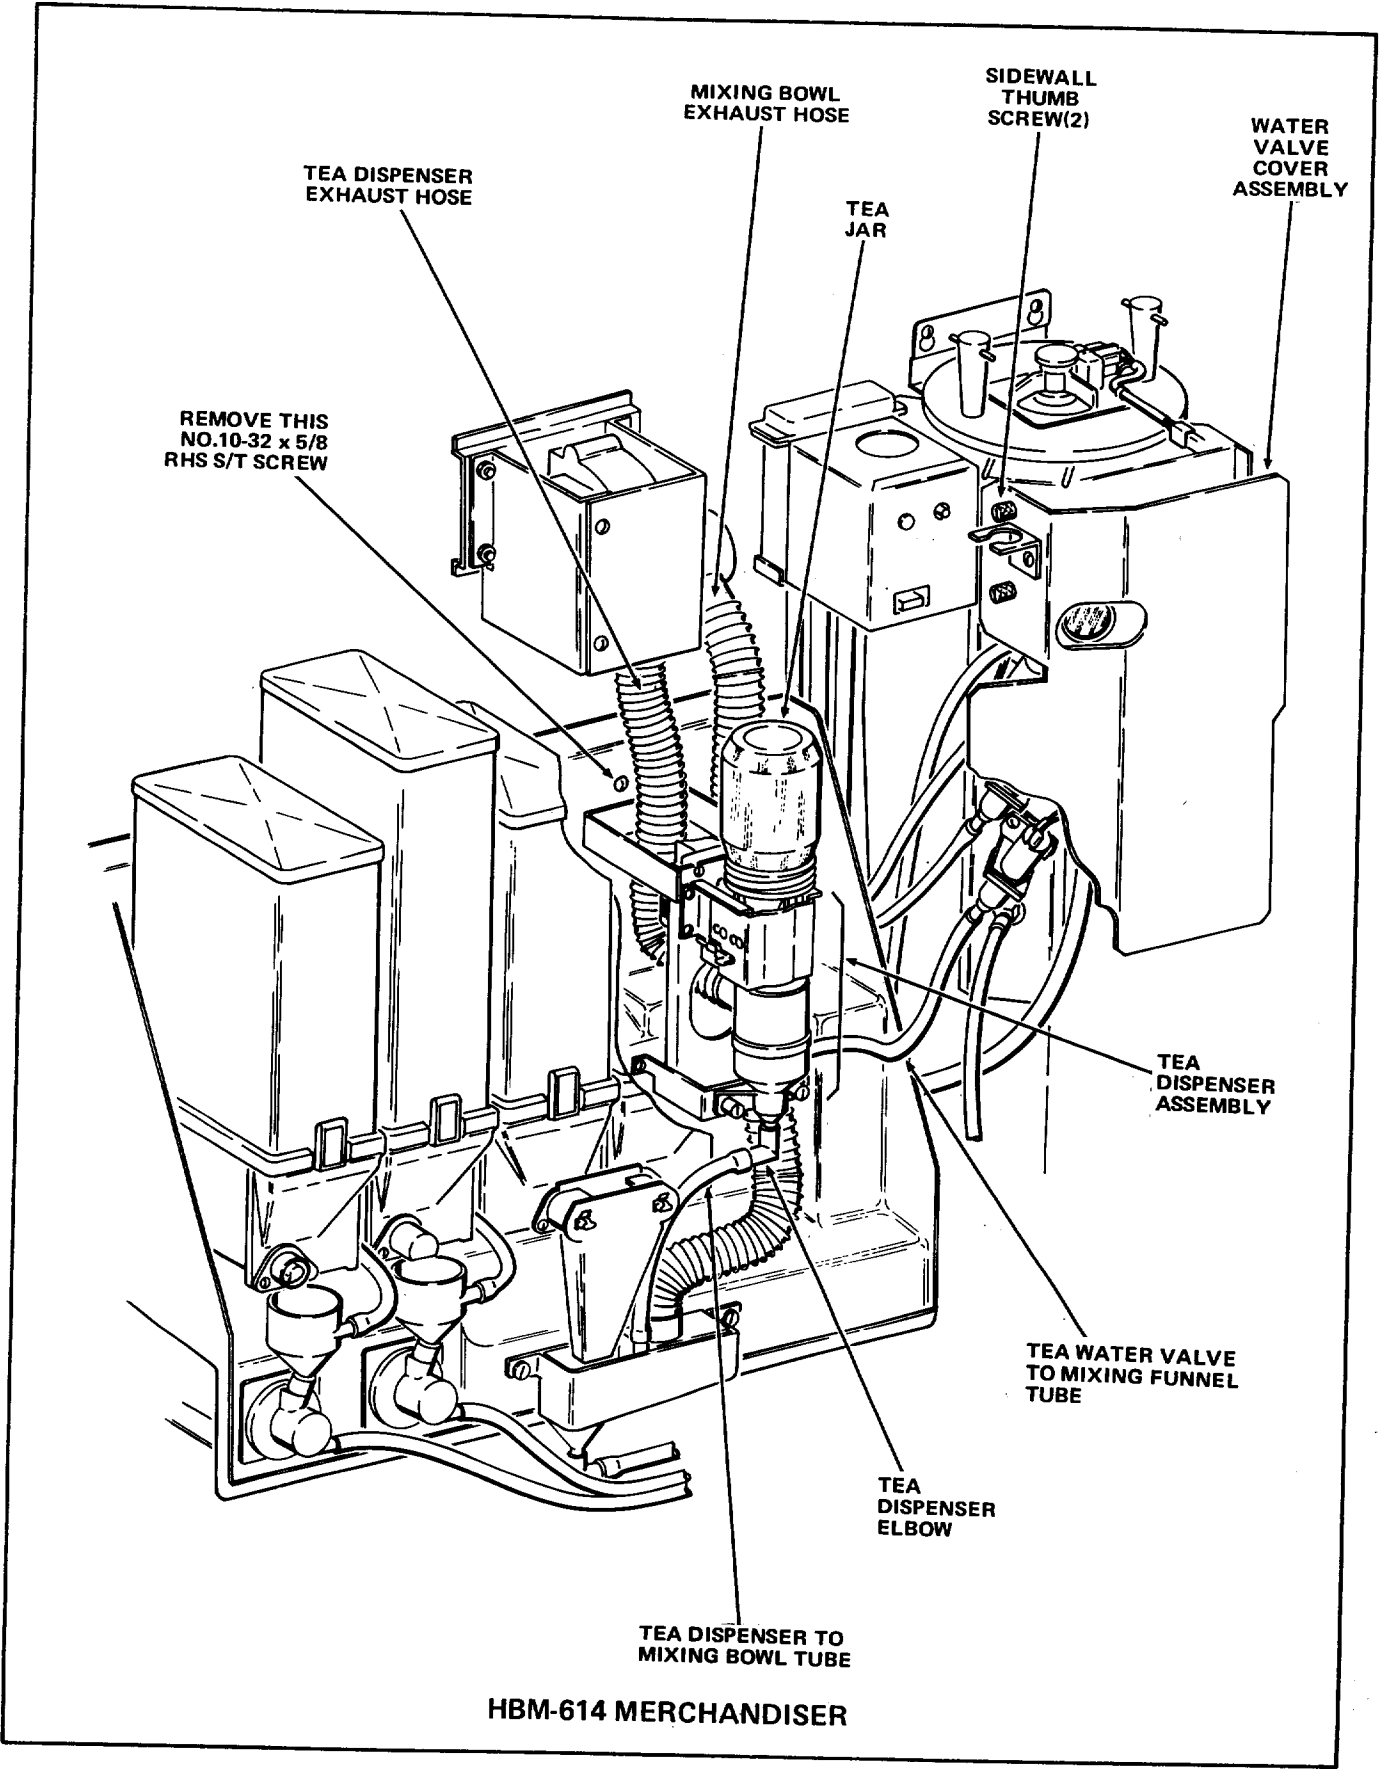
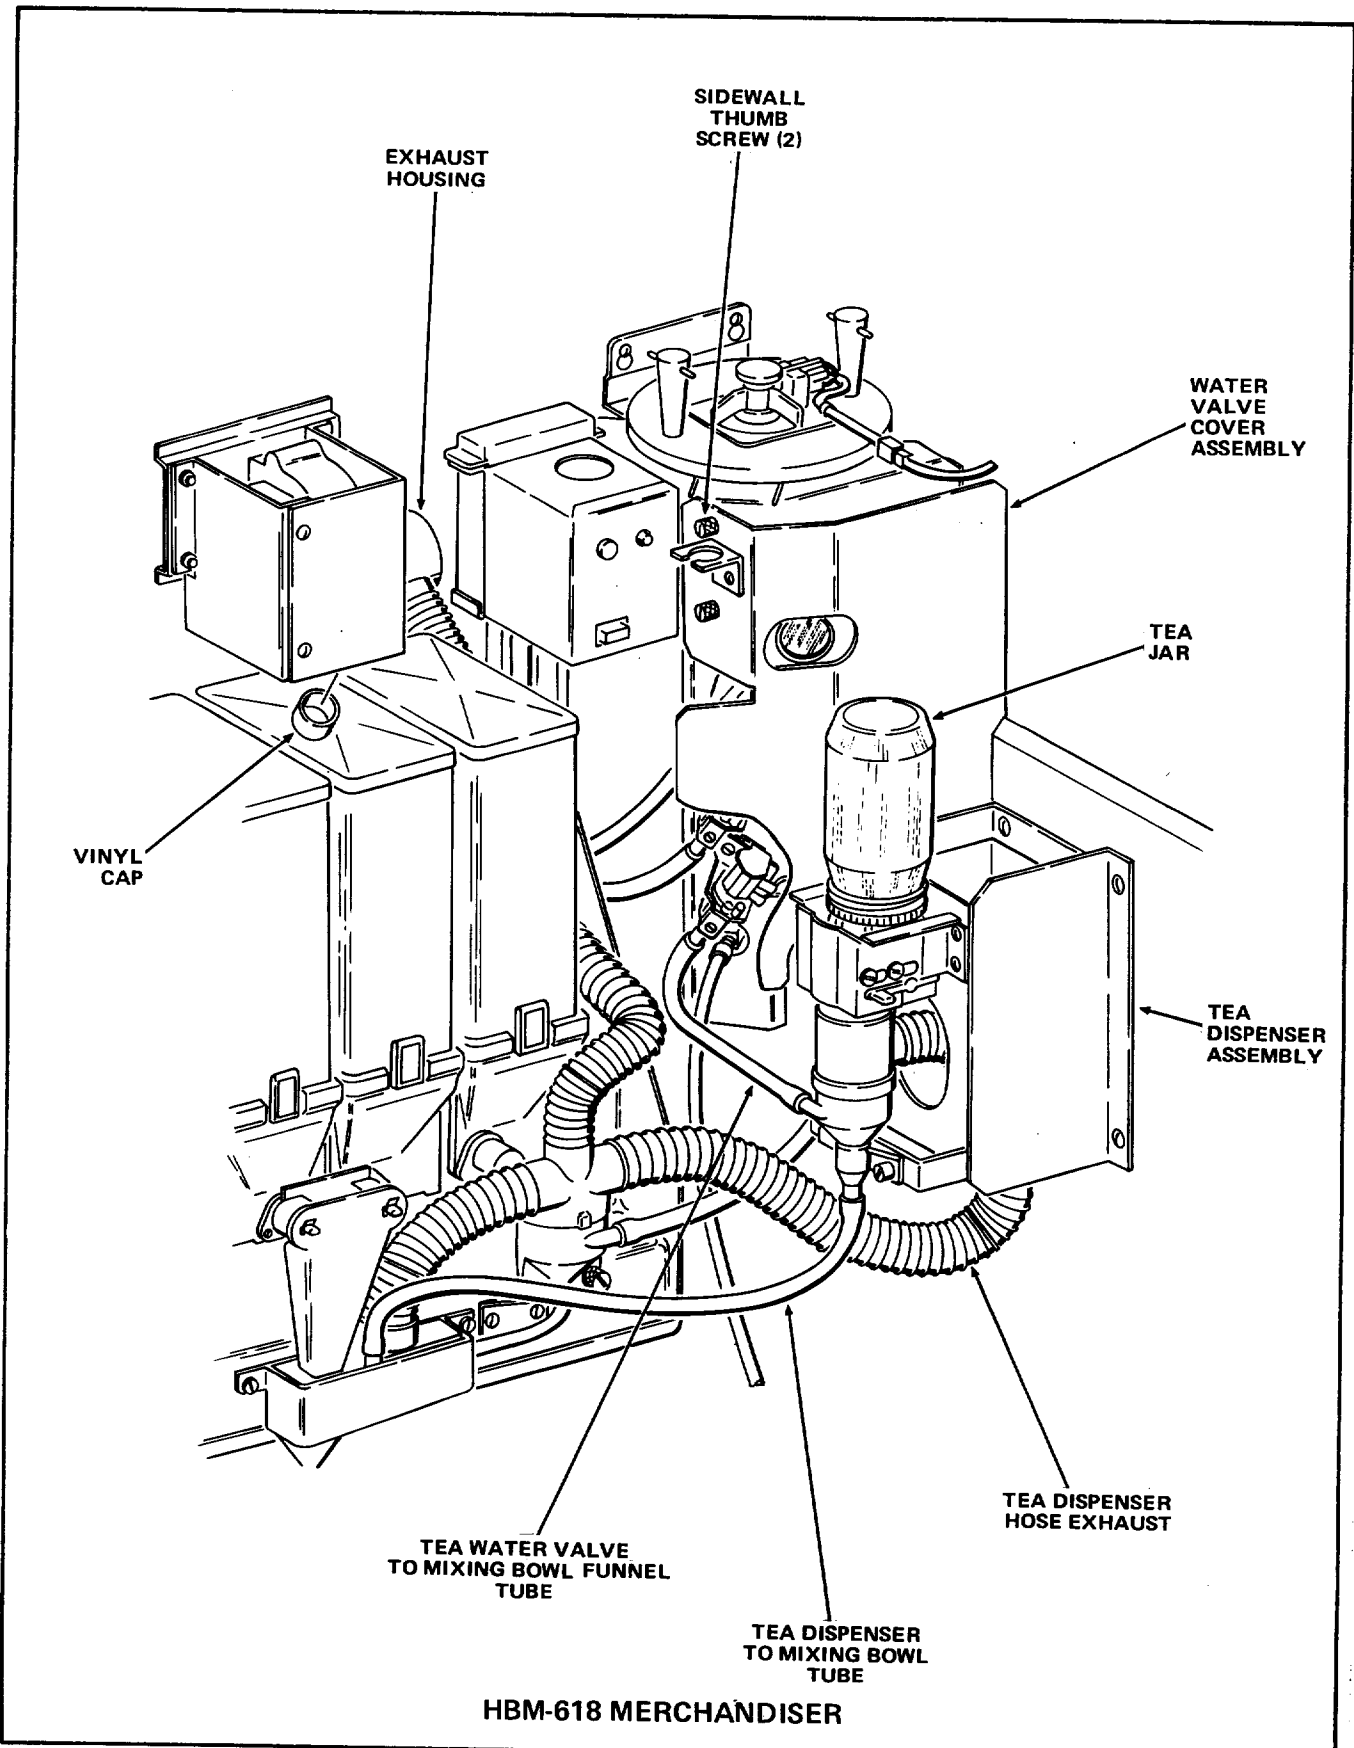

FIGURE 1
FIGURE 1A
3. Remove the Tea Dispenser Exhaust Hose from the Merchandiser. See Figure 1 for HBM-614 Merchandisers and Figure 1A for HBM-618 Merchandisers.
4. Remove the Mixing Bowl Exhaust Hose from the Merchandiser. See Figure 1.
5. Remove the Tea Dispenser to Mixing Bowl Tube from the Merchandiser. See Figure 1 or Figure 1A.
6. Remove the Tea Dispenser Elbow (if equipped) from the bottom of the Tea Dispenser. See Figure 1.
7. Remove two Sidewall Thumb Screws and the Water Valve Cover Assembly from the Merchandiser. See Figure 1 or Figure 1A.
8. Remove the Tea Water Valve to Mixing Funnel Tube from the Merchandiser. See Figure 1 or Figure 1A.
11. Remove three No.10-32 x 5/8 Round Head Self Tapping Screws and the Tea Dispenser Assembly and Tea Jar from the Merchandiser. See Figure 1 or Figure 1A.
12. Remove a No.10-32 x 5/8 Round Head Self Tapping Screw from the upper part of the Dry Ingredients Shelf which was behind the Tea Dispenser Assembly. See Figure 1.
13. Remove and retain the Vinyl Cap from the Exhaust Housing in the Merchandiser. See Figure 1A.